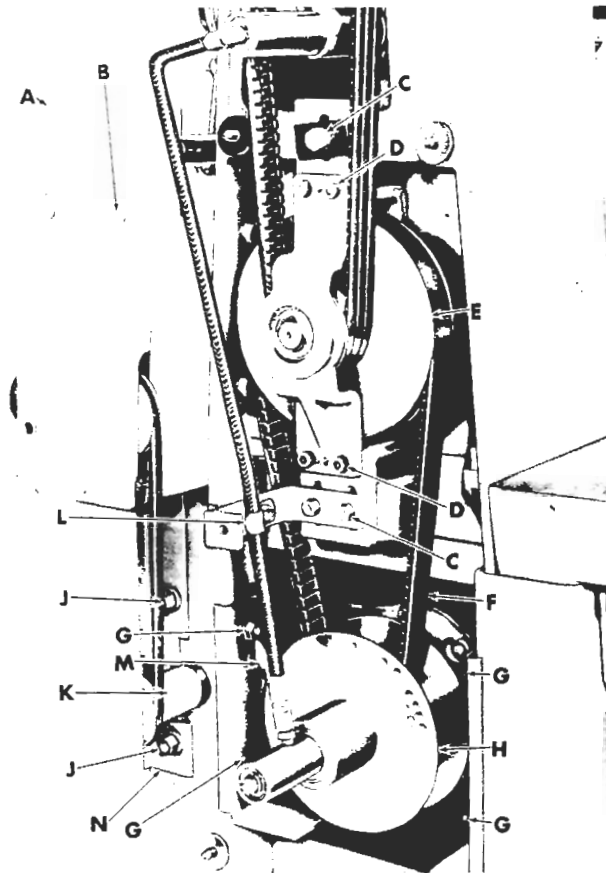

Figure 5
5. Remove clamp holding hydraulic line (L, fig. 5).
6. Loosen the three screws (C) holding countershaft assembly to column.
8. Remove belt (F) from motor pulley (H).
9. Loosen four socket cap screws (D) in front countershaft bracket, and pull complete countershaft pulley assembly out of rear countershaft bracket.
10. Remove spindle belts and variable belt (F) from countershaft pulley (E). CAUTION: Variable pulley is spring-loaded and will snap closed when belt is removed.